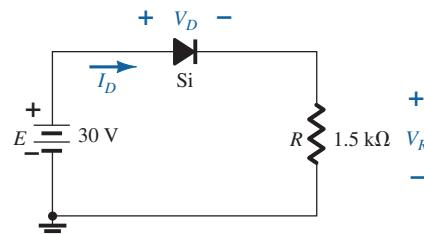

FIG. 154
4. a. Using the approximate characteristics for the Si diode, determine V_D , I_D , and V_R for the circuit of Fig. 154.